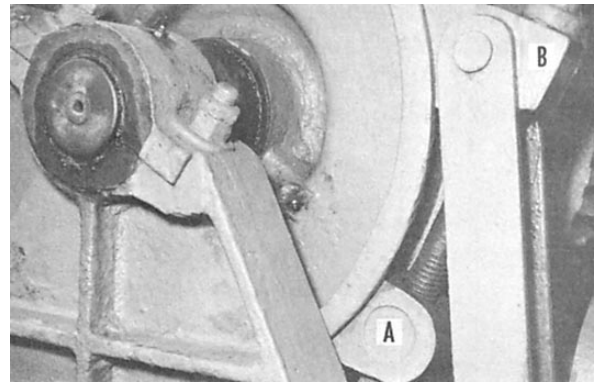

Figure 5-7.—A friction brake.
Figure 5-7 shows you another use of the screw. Suppose you want to stop a winch with its load suspended in mid-air. To do this, you need a brake. The brakes on most anchor or cargo winches consist of a metal band that encircles the brake drum. The two ends of the band fasten to nuts connected by a screw attached to a handwheel. As you turn the handwheel, the screw pulls the lower end of the band (A) up toward its upper end (B). The huge mechanical advantage of the screw puts the squeeze on the drum, and all rotation of the drum stops.